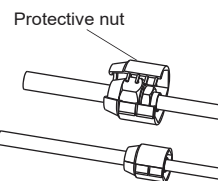

Fig.6-9
- The protective nut is a one-time part, it can not be reused. In case it is removed, it should be replaced with a new one. (Refer to Fig.6-9)